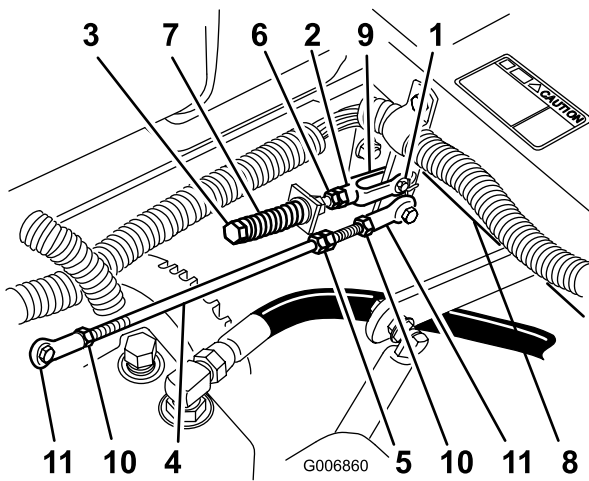

Figure 66
1. Loosen the locknuts at the ball joints on the pump control rod (Figure 66).
3. Adjust the pump rod length by rotating the double nuts on rod, in the appropriate direction, until wheel is still or slightly creeps in reverse (Figure 66).
6. Tighten the locknuts at the ball joints (Figure 66).